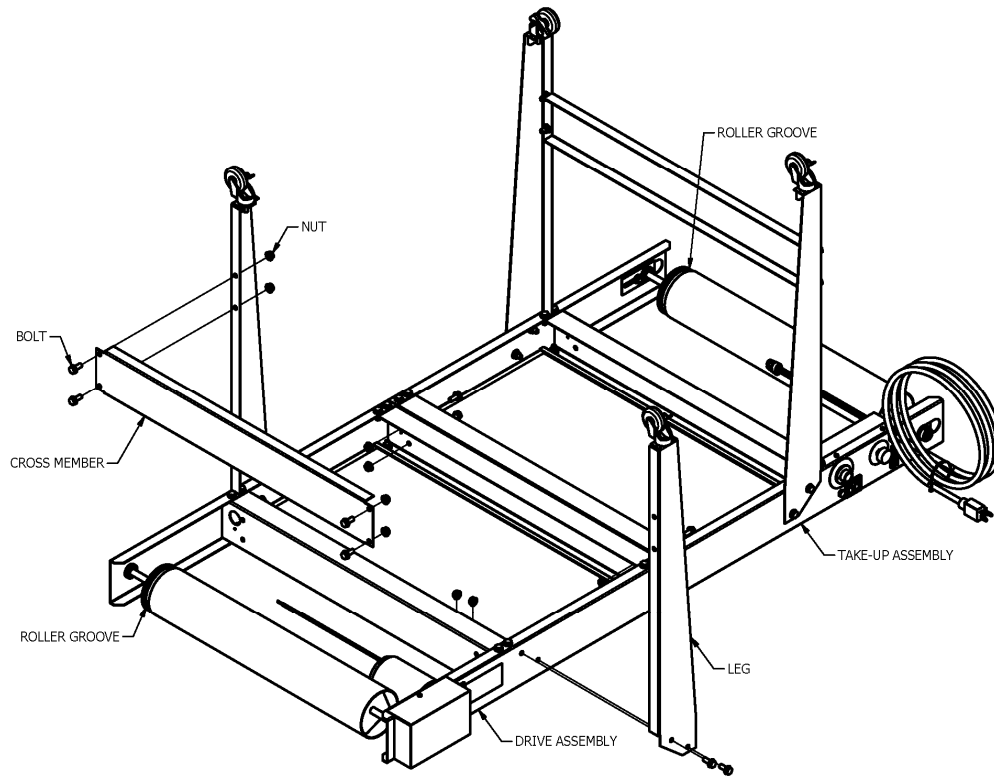

Figure 1 - Conveyor Bed Assembly
2. Attach (2) Legs and Cross Member w/Bolts & Nuts. (Note roller groove location) (See Fig. 1)
5. Bolt Cross Member & Legs to Drive Assembly. (See Fig. 1).